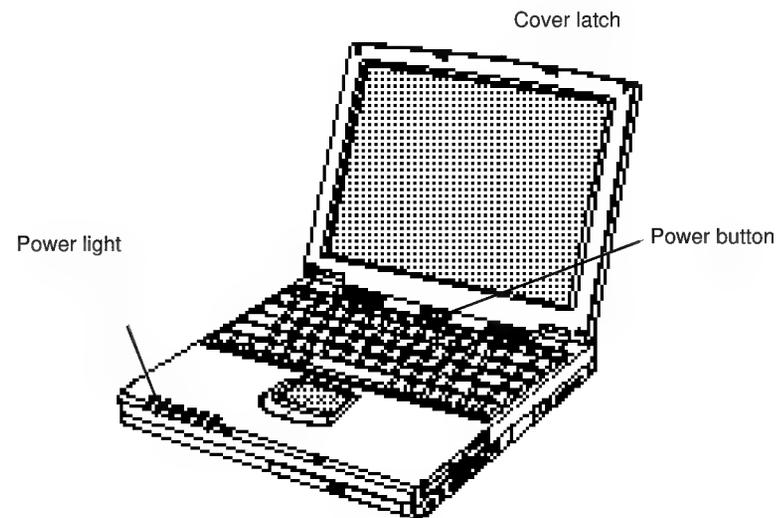

Figure 5. Turning On the Computer's Power
3. Press and then release the Power button (Figure 5).